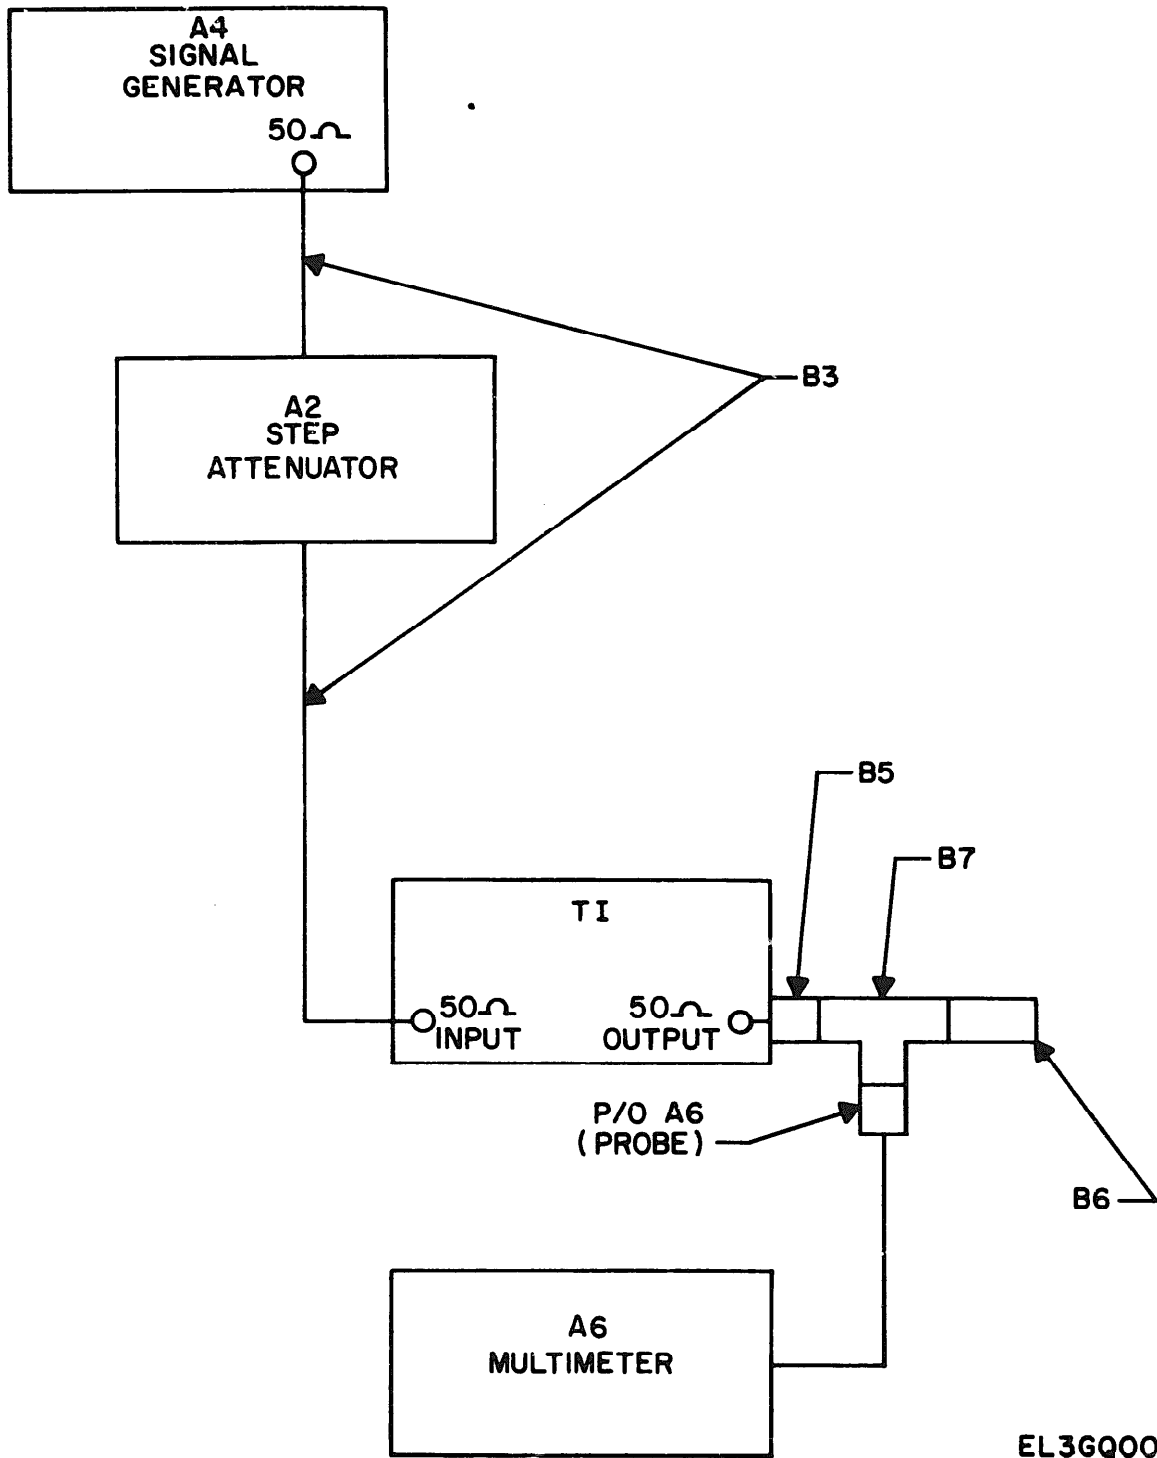

Figure 2. Low Frequency Response Setup.
(1) Connect equipment as shown in figure 2